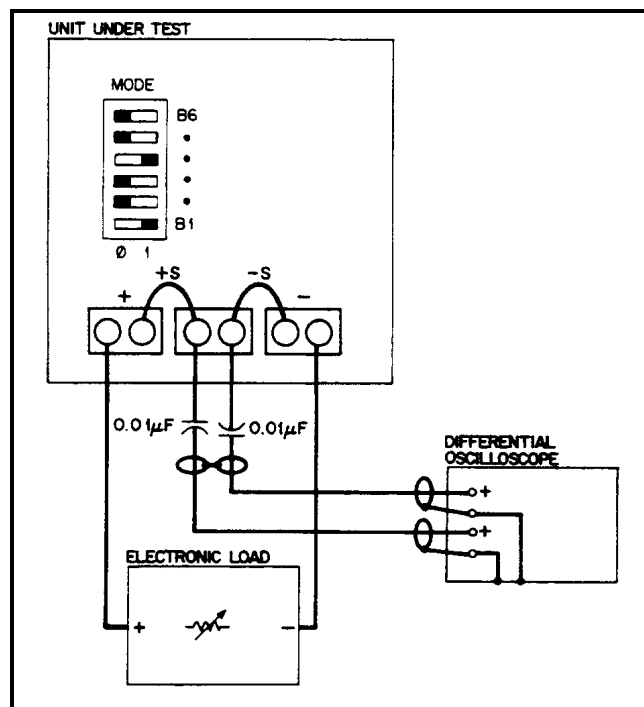

Figure 2-7. Peak-To-Peak Measurement Test Setup, CV PARD Test
Peak-To-Peak Measurement Procedure. Figure 2-7 shows the interconnections of equipment to measure PARD in V_{pp} . The equipment grounding and power connection instructions on Page 23 apply to this setup also. Connect the oscilloscope to the + S and - S terminals through $0.01\mu\text{F}$ blocking capacitors to protect the oscilloscope's input from the unit's output voltage. To reduce common-mode noise pickup, set up the oscilloscope for a differential, two-channel voltage measurement. To reduce normal-mode noise pickup, use matched-length, 1 meter or shorter, 50Ω coaxial cables with shields connected to the oscilloscope case and to each other at the other ends. Proceed as follows:
- a. Connect the test equipment as shown in Figure 2-7. Operate the load in constant resistance mode (Amps/Volt) and set resistance to maximum.